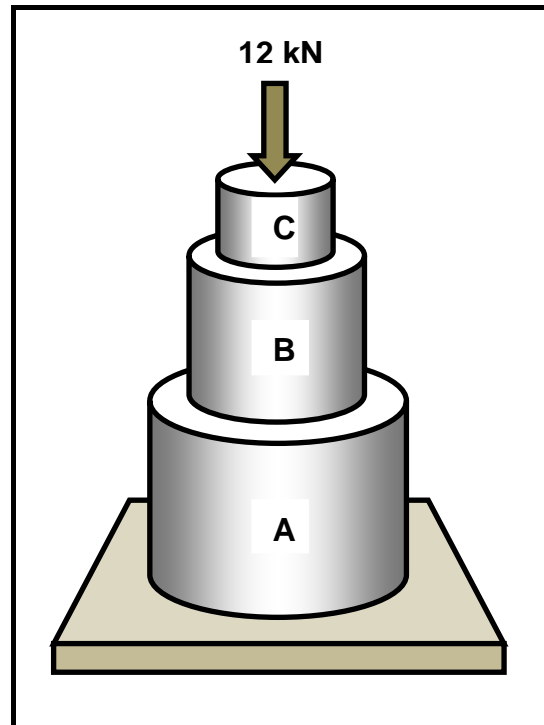

FIGURE 2.2
- 2.2 A compressive test needs to be done on a round stepped shaft, shown in FIGURE 2.2 below. The diameter of part A is 100 mm, part B is 70 mm and part C is 50 mm. A compressive load of 12 kN is exerted onto the shaft. The modulus of elasticity for the material is 108 GPa.